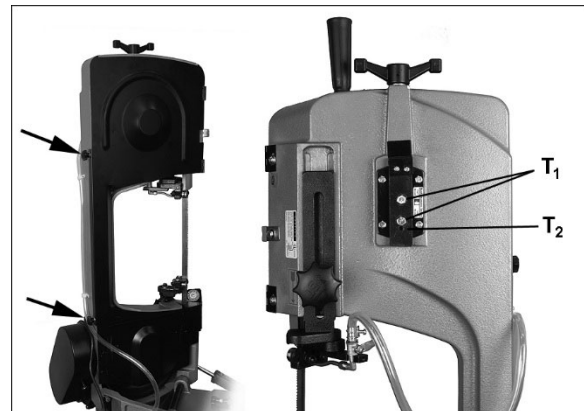

Figure 8-10: blade tracking adjustment
3. Open rear guard by removing two knobs (see Figure 8-10).
2. Open rear guard by removing 2 knobs (see Figure 8-10). Observe position of blade on wheel. If blade is not adjacent to wheel flange, first adjust blade tracking according to *sect. 8.9 Blade tracking*.
6. If blade is not tracking properly, loosen bolts (T1, Figure 8-10) with 12mm wrench.